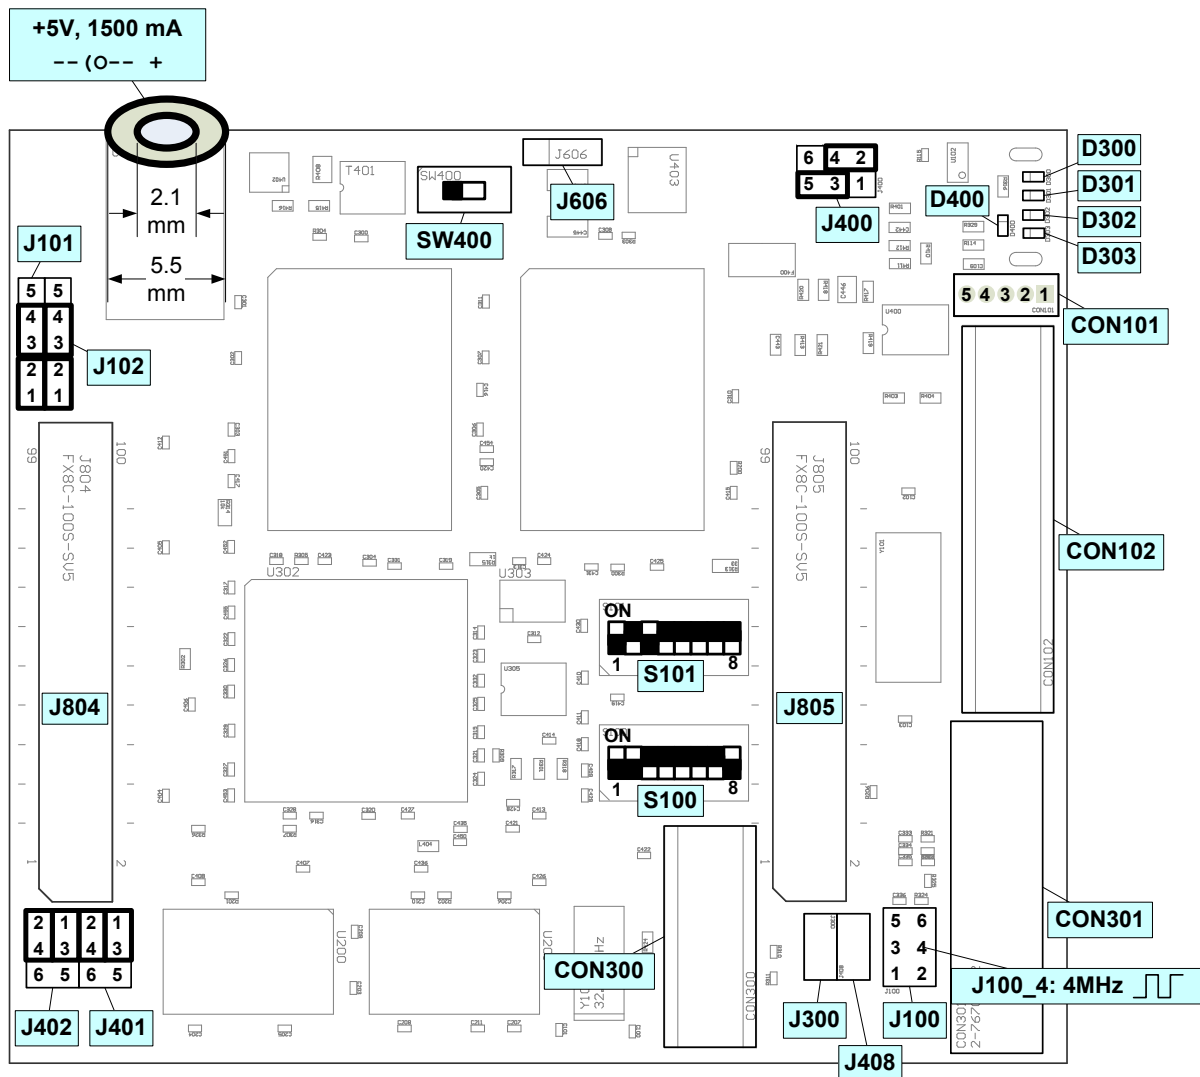

Figure 6-1: Settings for accessing the fallback MiniBootROM
- b) Ensure the jumper settings according to Figure 6-1. Differences to the default settings are: